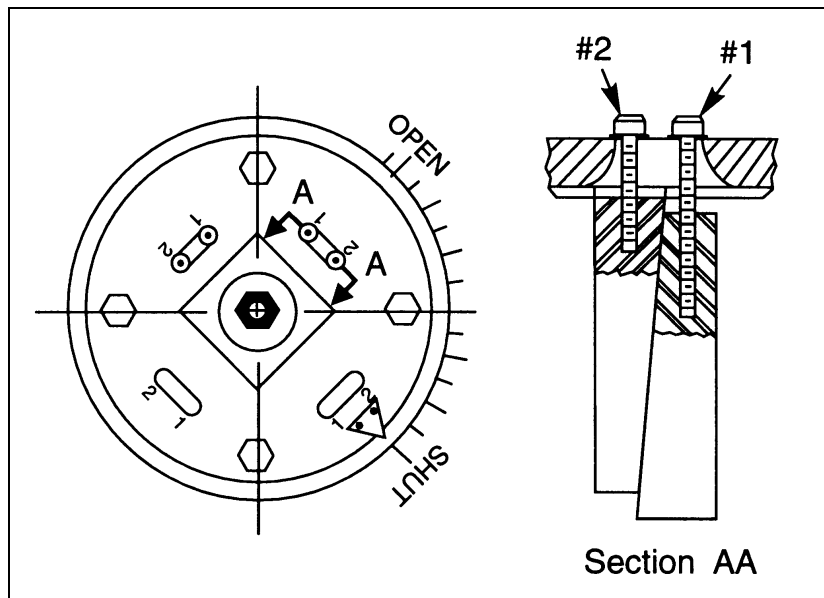

Figure 2 - Actuator Lockscrews
1. Loosen the two sets of lockscrews #1 and #2 on the top of the actuator as shown in Figure 2. Loosen lockscrews #1 about 6 to 8 turns; loosen lockscrews #2 about 3 turns. Tap both lockscrews #1 with a soft hammer to loosen the keys.
6. Refer to Figure 2. Tighten the two lockscrews #2; then tighten the two lockscrews #1 to secure the keys in position.